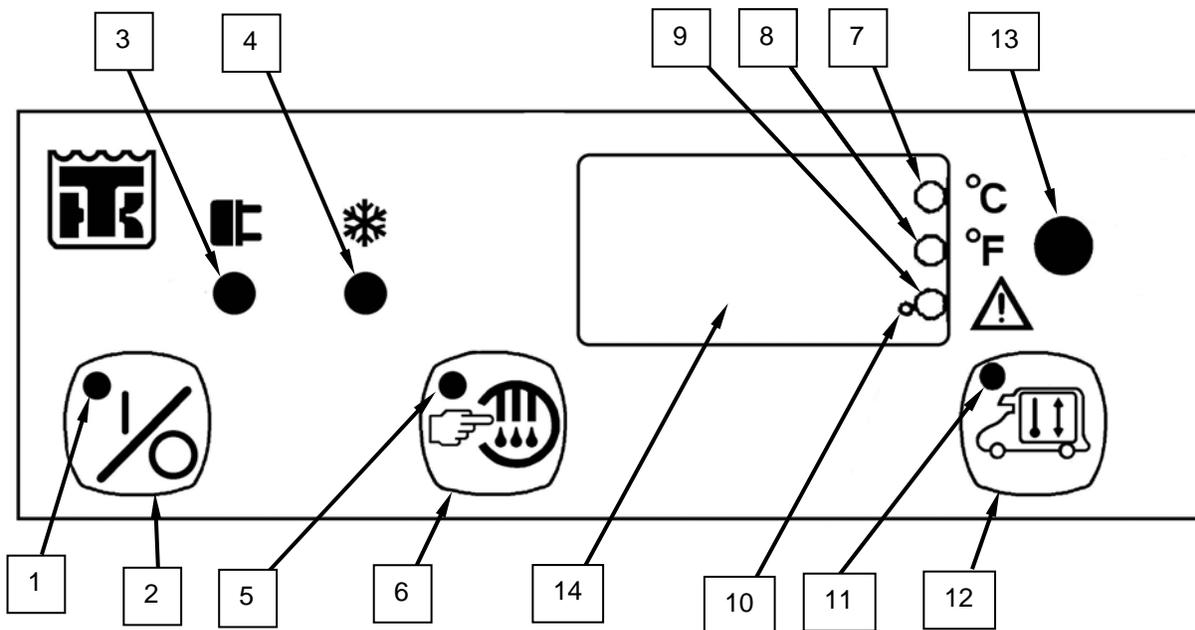

Figure 2-6. M13 Controller Operating Controls and Indicators.
b. Details for operating controls and indicators of the M13 Controller are given in Table 2-2 and shown in Figure 2-6.